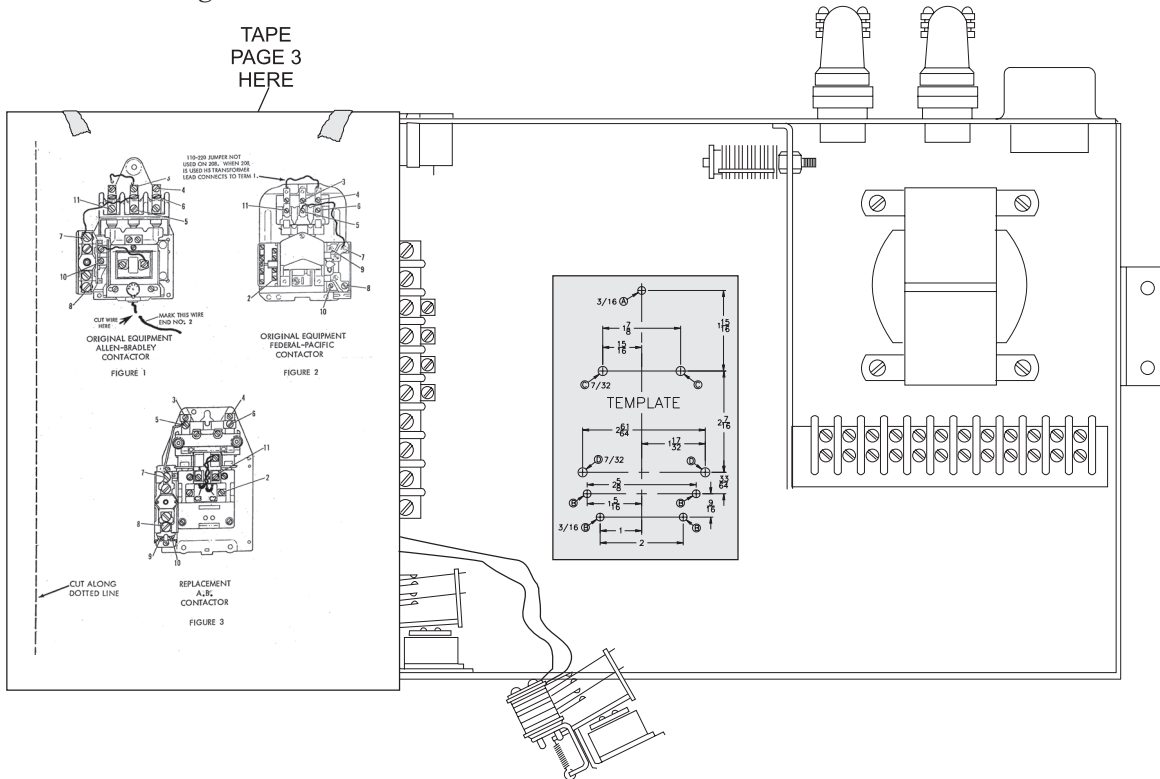

Figure 5
2. Remove the electrical control box cover from the pinsetter. Tape page 5 over the circuit breaker. Refer to *Figure 5*.
6. Remove the screws that hold the time delay unit or recycle relay and motor start relay and pull them out of the box to the limit the wires will allow. Refer to *Figure 5*.
7. Place the drilling template, (Figure 4, page 7), into the void left by the old contactor and locate holes A and B on the template with holes A and B in the box. Hole A is the top center hole for the old contactor. Hole B is over the motor start relay. Hold template in place with masking tape. Refer to *Figure 5*.